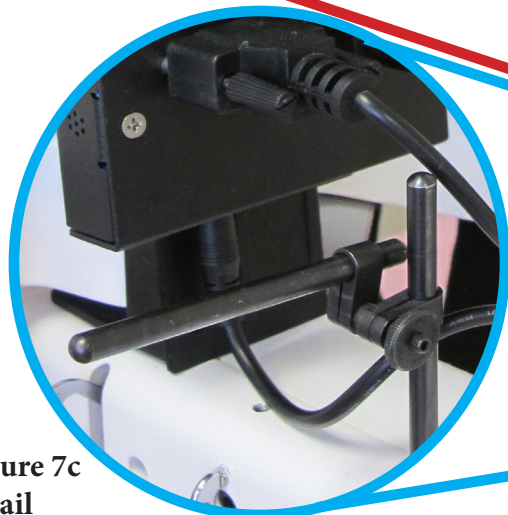

Figure 7c
5. Plug the barrel connector (from the third cable wrapped together with the two serial cables, *Figure 7a*) into the middle connector on the bottom of the black box (*Figure 7c*).